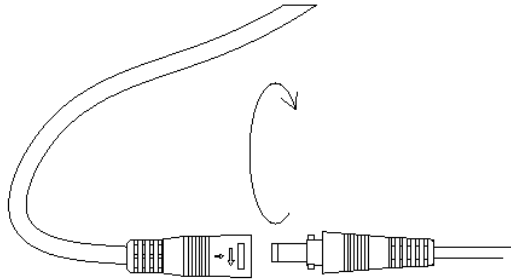

Fig.3
**Step 3:** Connect the LED Driver using interlocking power connectors. (Fig. 3)